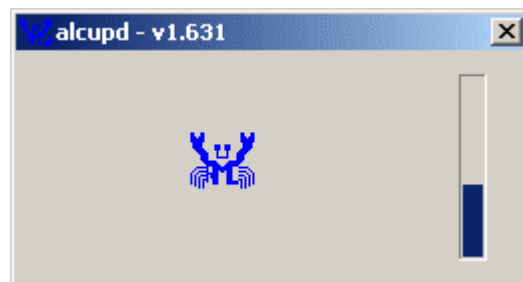

Figure 7-29: Audio Driver Installation
Step 10: Click **YES** to continue the installation process. The driver installation begins as shown in **Figure 7-29**.